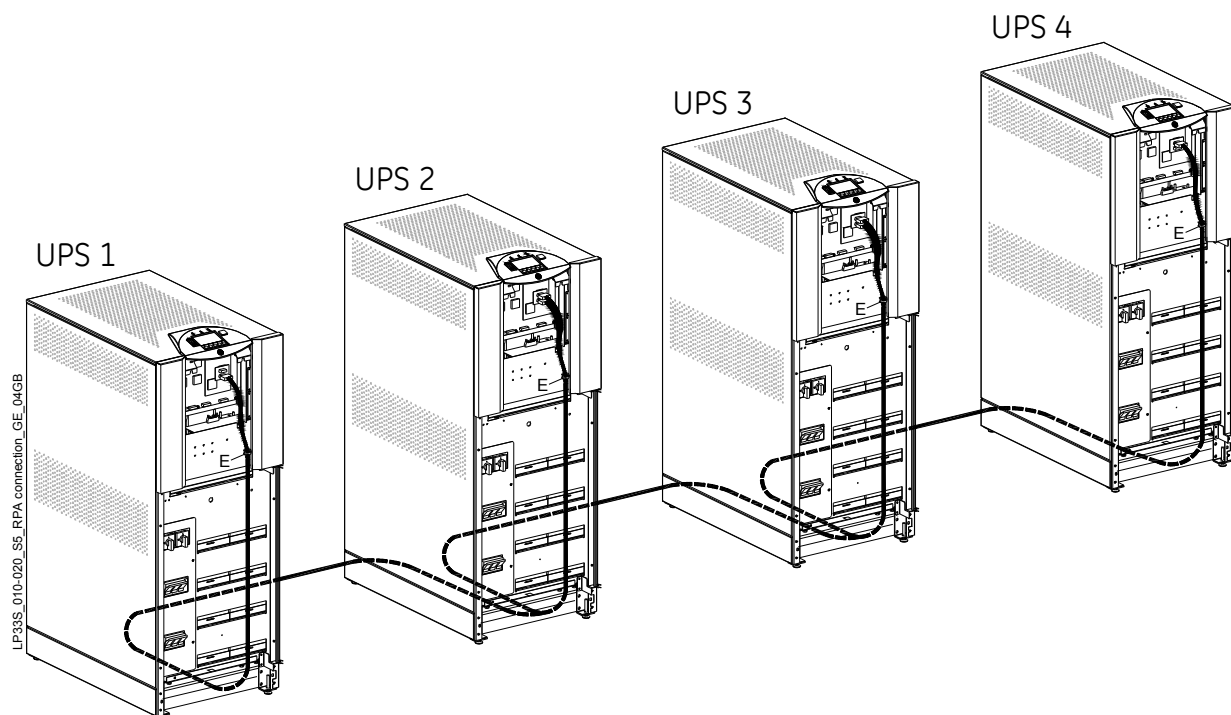

Fig. 5.8.4-4 Control bus location RPA parallel system
Connect the control bus cable between the parallel units as indicated in the diagram Fig. 5.8.4-2. Provide that the connectors **J3** and **J4** are properly fixed with the included screws.
Place the cables and connect them as indicated in the diagram Fig. 5.8.4-4 following these procedures:
- Put in place the front screens “B, C and D” (Fig. 5.8.4-1) paying attention to not damaging the control bus cables.